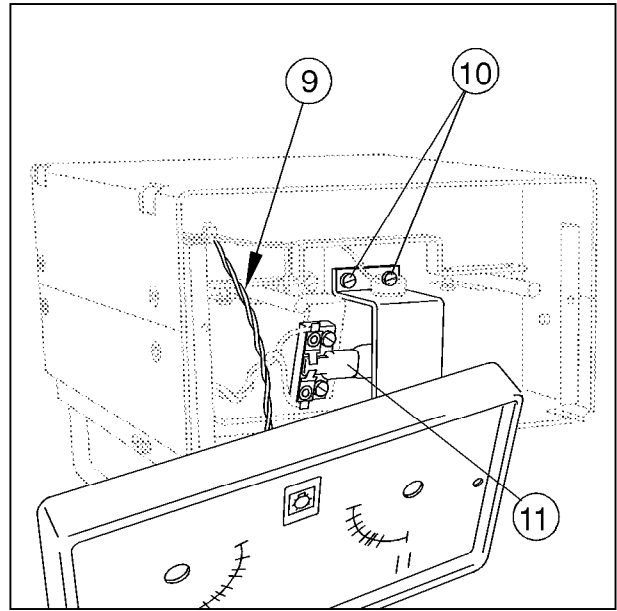

Fig. 7
- **Caution :** The front panel is connected to the collimator via a cable (9/ Fig. 7).
Caution: The front panel is connected to the collimator via a cable (9/Fig.7).
- Remove both screws (10/Fig.7) and take off the metal bracket for the temperature switch).
- Take out the defective lamp (11/Fig. 7) and replace it with a new lamp.